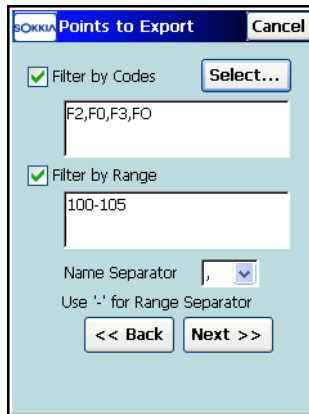

Figure 5-22. Points to Export
5. If *By Range and Code* was selected in the *Points* drop-down menu, on the *Points to Export* screen, select the codes and/or the range of points to be exported (Figure 5-22 on page 5-16).